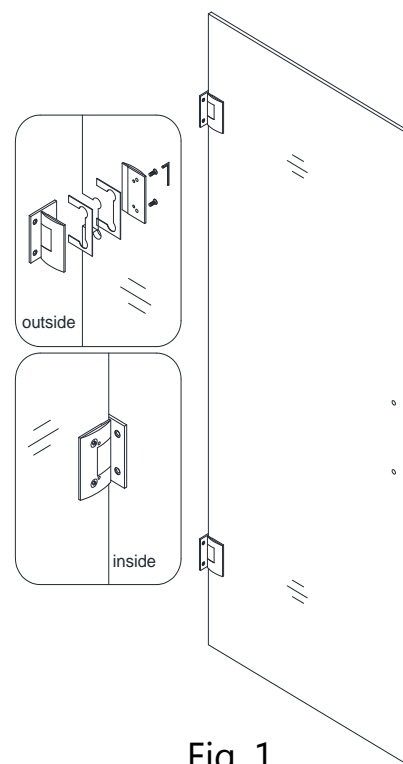

Fig. 1
1. Attach the **Hinges (05)** to the **Door Glass (01)**. Use one hinge gasket per side. Attach the hinges centered in the notches and square with the edge of the door glass. Fully tighten the hinge bolts. **(Fig 1)**